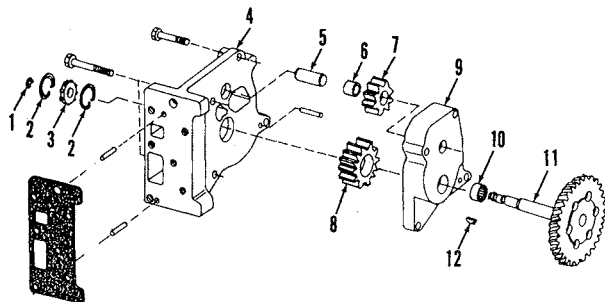

Fig. 158—Exploded view of transmission oil pump used on Power Shift models.
graph 129, remove six cap screws securing pump to valve housing and remove pump. Remove cap screws securing manifold (4—Fig. 158) to pump housing (9). Remove small snap ring (1), then lightly tap end of drive shaft (11) with a punch to separate shaft and pump housing from the manifold. Lift out idler gear (7). Tap drive shaft about 1/4 inch (6 mm) out of pump gear (8), then use a pry bar underneath gear to remove gear from shaft.